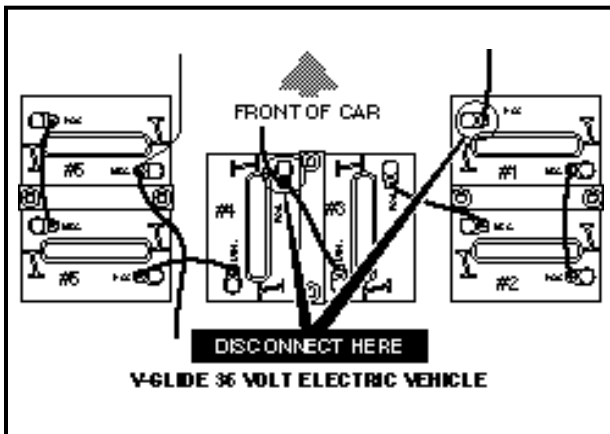

Figure 14
- DISCONNECT THE BATTERIES BEFORE SERVICING THE ELECTRIC VEHICLE (**SEE FIGURES 14 AND 15**).